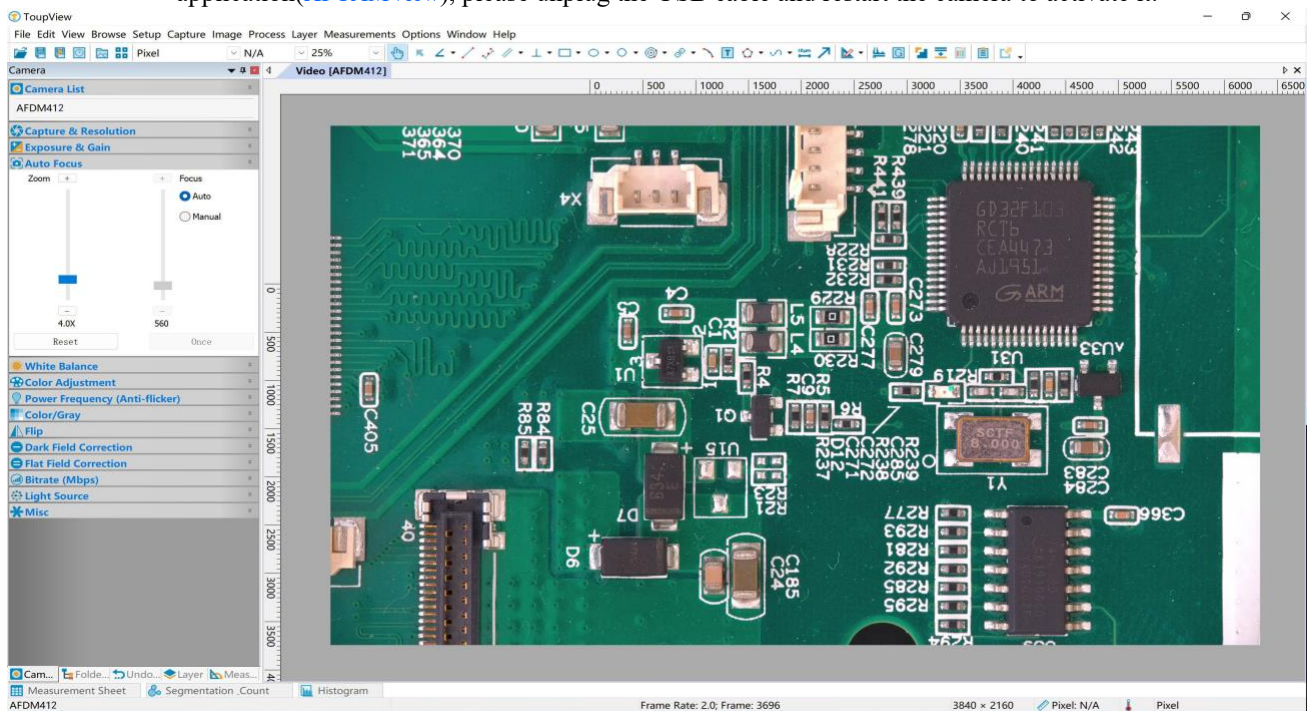

Figure 5-2 ToupView and AFDM412 Camera in USB Mode
- Install ToupView/ToupLite on your PC or install ToupView App on the mobile device; Run the software ToupView/ToupLite, clicking the camera name in the camera list n to start the live video as shown in Figure 5-2.
Active AFDM412 camera is recognized by ToupView/ToupLite software or ToupView App and they are displayed as a camera list or thumbnail in the software or app as shown in Figure 5-2.